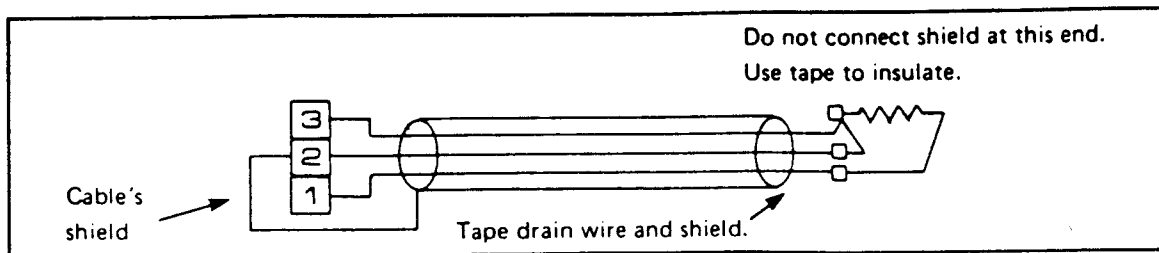

Figure 5.10 — RTD Wiring
5.5.1 RTD Wiring — If the optional RTD Module is used, it must be wired as shown in Figure 5.10. Also, note the following requirements: